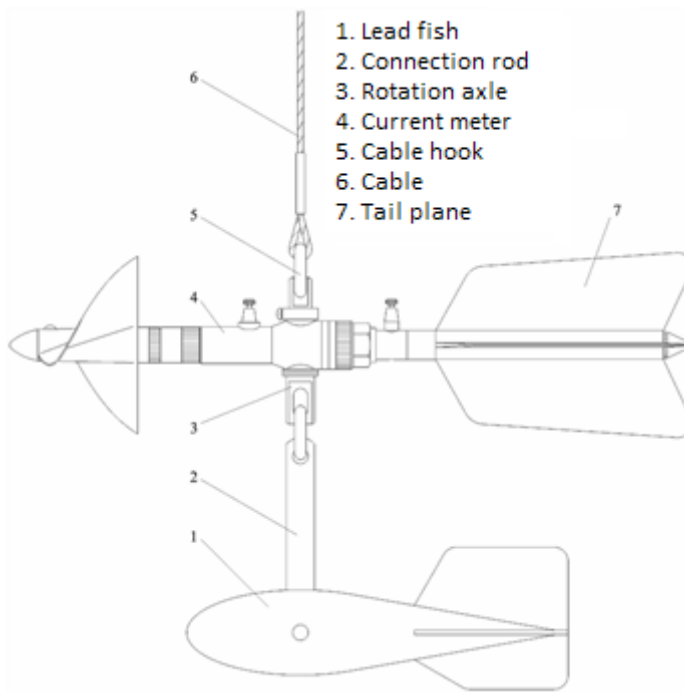

Fig 4: Rotation axle - cable
1) When the velocity is < 1 m/s, the LS20B can be installed like below (Fig 4: Rotation axle-cable) and the lead fish must be ≥ 30 kg.